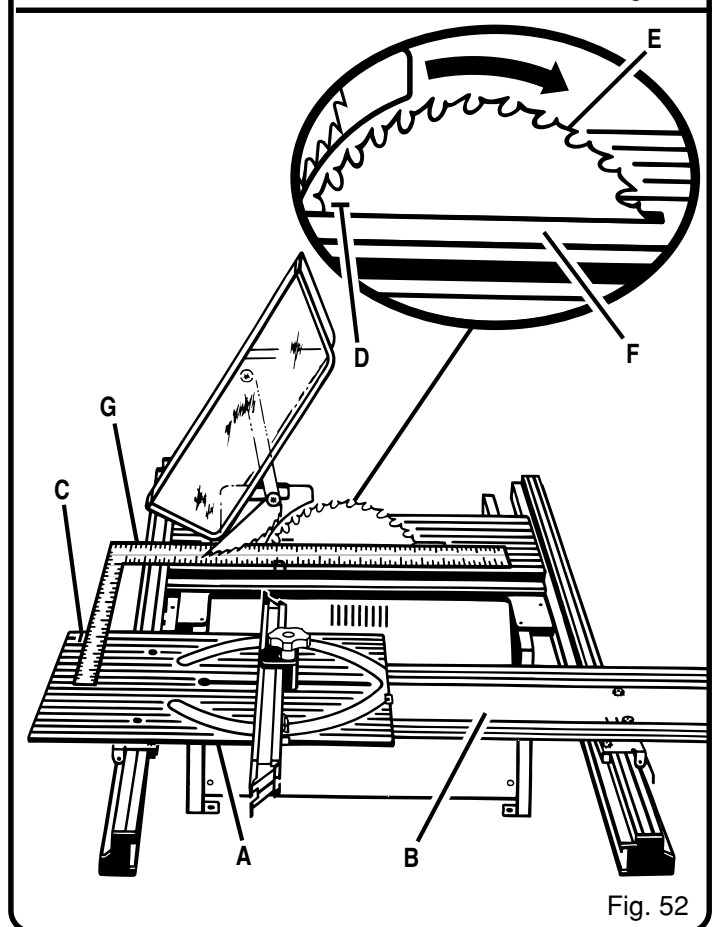

Fig. 52
- Remove framing square and slide miter table to the rear of miter base as far as it will go. See Figure 52.